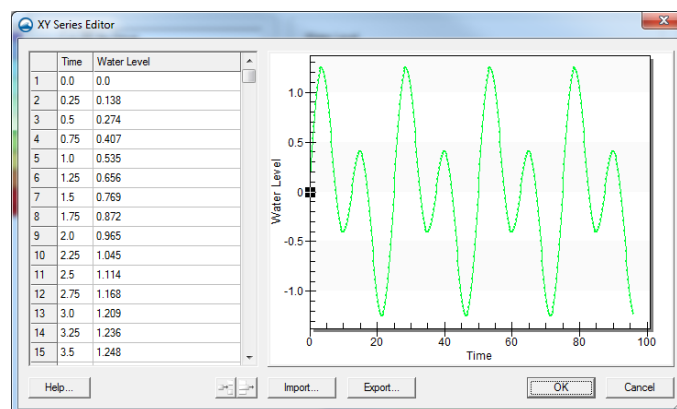

Figure 8 The dialog as it should appear once the tide values are entered
8. Copy the flow values from the *y* column in the “Tide.csv” file to the *Water Level* column in the *XY Series Editor* dialog. See Figure 8.